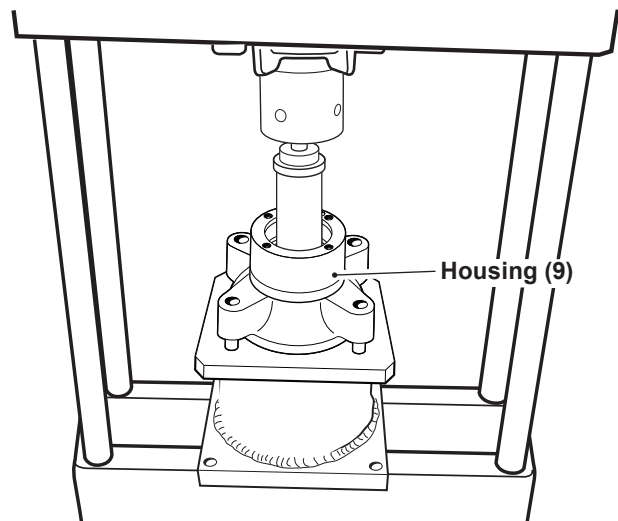

Figure 14, Needle Bearing
1. Remove castellated nut (1), woodruff key (6), plastic plugs (8), retaining ring (2), seven screws (22), seven washers (23), end cover (19), gearwheel set (17) with O-rings (16, 18), cardan shaft (15), distributor plate (14), O-ring (13), output shaft (7) and the shaft seal. See pages 4 - 9.
2. Remove the needle bearing (12) with a pressing tool. See figure 14.
**Note:** The needles may fall out of the needle bearing (12) during dismantling and can be retrieved for re-use.